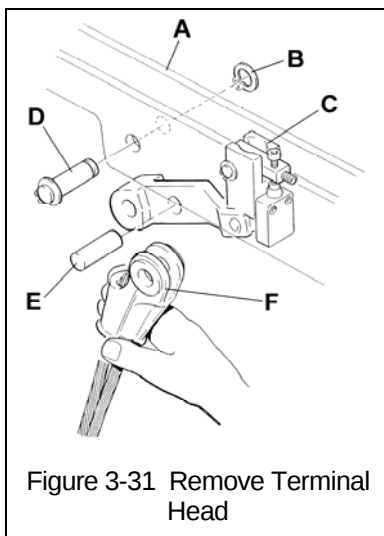

Figure 3-31 Remove Terminal Head
- 1) Working from a scaffolding or lifting platform, remove the Retaining Ring (B) and Load Limiter Pin (D) from the Terminal Head Crossbar (A). Let the Load Limiter (C) rotate downward and remove the Terminal Head (F) from the Load Limiter (C) by pulling out the Terminal Head Pin (E). (see Figure 3-31).